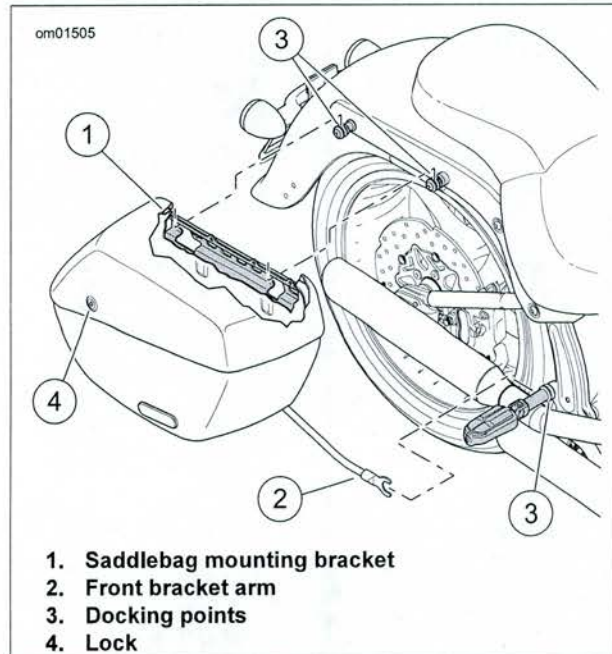

Figure 5. Saddlebag Removal/Installation
- See Figure 5. Push bag toward rear of the vehicle to disengage the saddlebag brackets from the docking points.
- See Figure 5. Align the slots on the saddlebag mounting bracket with the two docking points on the rear fender. Insert the front bracket arm into the mounting point on the passenger footpeg bracket.